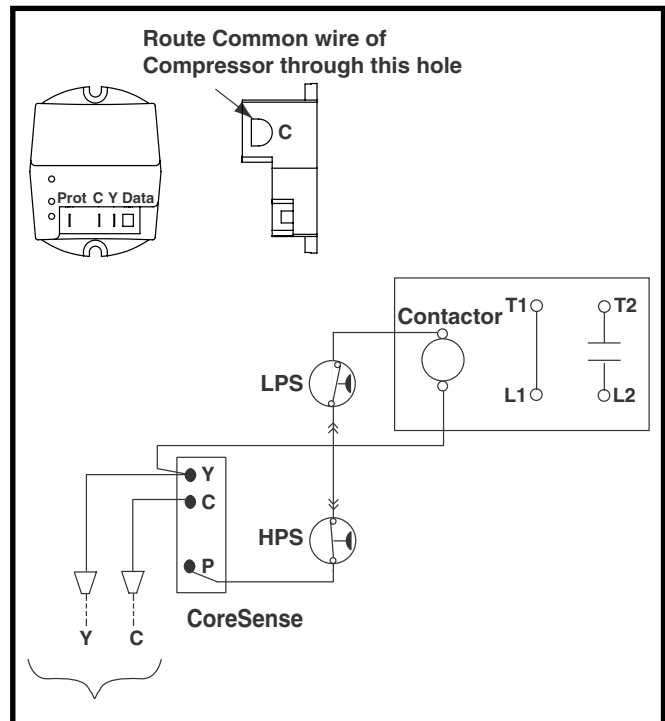

Figure 3. New AC Wiring with CoreSense
2. Reconnect the Run and Start wires from the compressor to their original connections. The Run (yellow) wire should connect to the "T1" of the contactor. The Start (Red) wire should connect to the "H" terminal of the capacitor. See Figure 3.